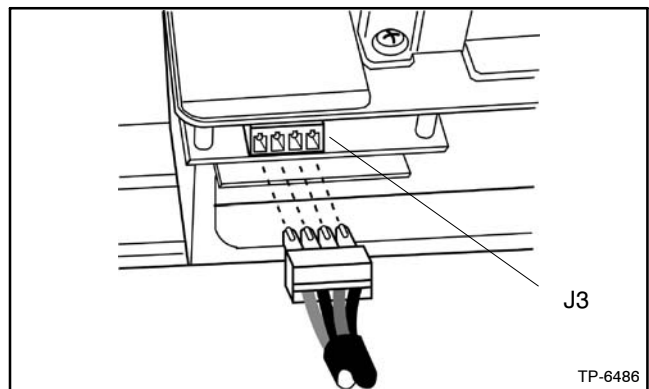
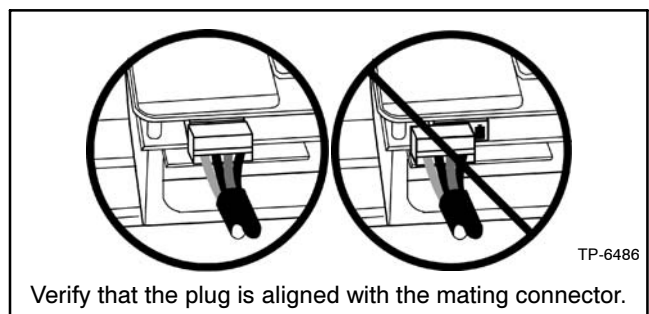

Figure 2-40 Communication Terminal J3 on Transfer Mechanism
Figure 2-41 Connecting Communication Cable
1. Install the green pluggable connector into terminal J3 on the transfer mechanism. See Figure 2-40. Refer to Figure 2-41 for the correct position of the cable.